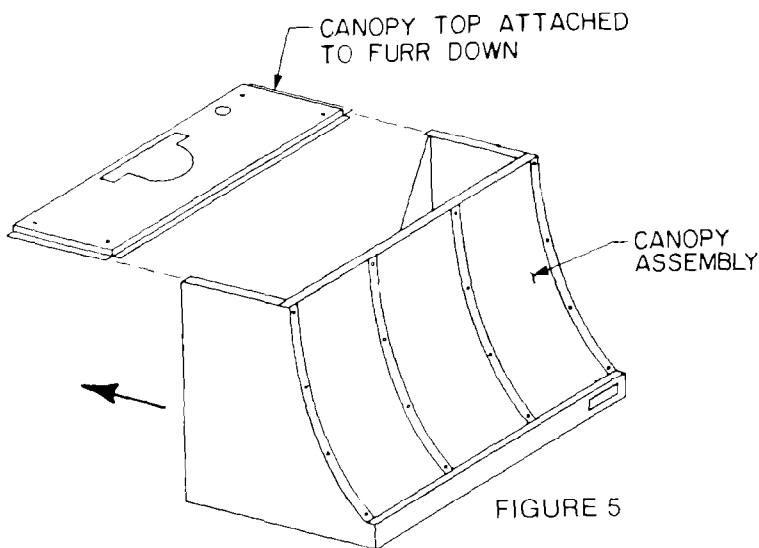

FIGURE 5
3. Install canopy top to kitchen furr down with four screws provided in installation pack, Fig. 5.
4. Install canopy assembly by sliding top flanges of canopy assembly onto mating flanges on canopy top, Figure 5. Secure with 4 screws previously removed.